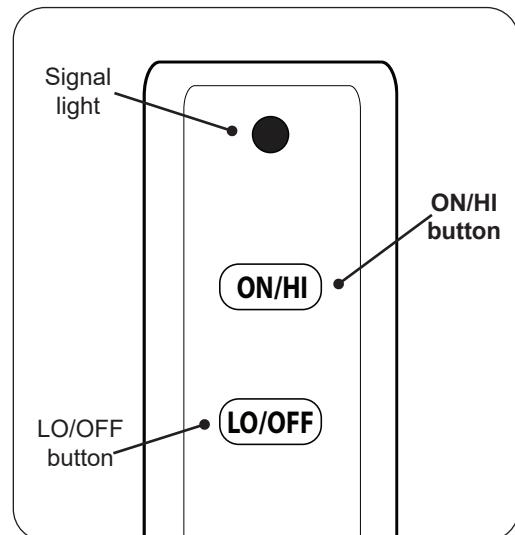

Fig. 39-1 Remote transmitter detail
- Locate the remote transmitter and press and hold the **ON/HI** button (see Fig. 39-1). The ignition sequence will begin.